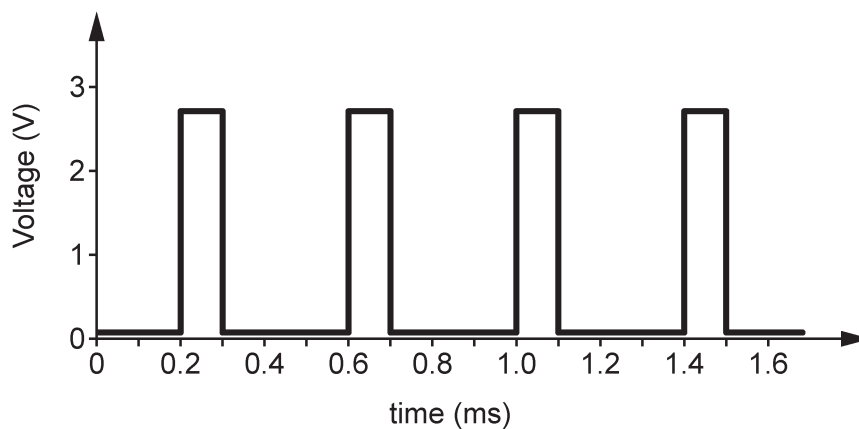

Fig. 4.2
(a) **Fig. 4.2** shows the sound signal waveform produced by the electronic pen.
- (i) Determine the period of the signal in **Fig. 4.2**. Give your answer in ms. Show your working.
- (ii) Calculate the frequency in kHz of the signal in **Fig. 4.2**.